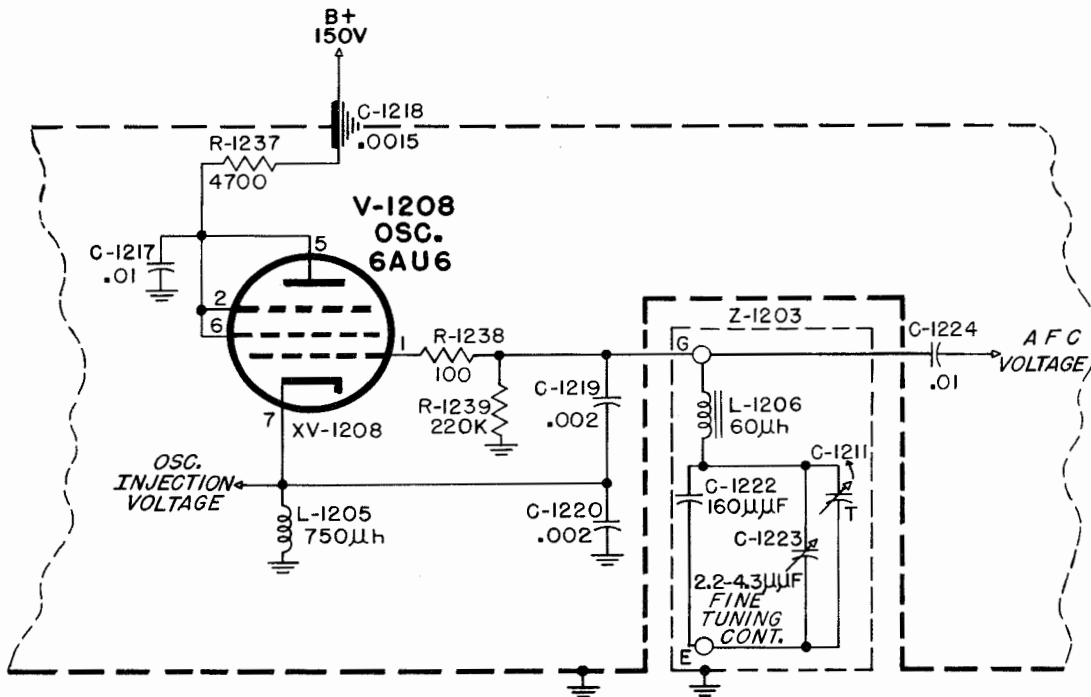

Figure 2-44. Oscillator V-1208, Simplified Schematic Diagram
(6) OSCILLATOR V-1208 (CV-127/FRR-24). (See Figure 2-44).—Oscillator V-1208, a type 6AU6 pentode, is connected in a highly stable series tuned circuit. The oscillator tuned circuit consists of C-1222, C-1223 and C-1211 in series with L-1206, C-1219 and C-1220. The voltage drop across C-1219 and C-1220 provide the feedback necessary for operation. Capacitors C-1219 and C-1220 are very large in comparison to C-1222, C-1223 and C-1211 thereby causing very loose coupling between the tube and the tuned circuit and providing a very high Q circuit. The values of C-1219 and C-1220 are large compared with the grid-to-cathode and plate-to-cathode capacitance of the 6AU6 and as a result any change in the capacitance of these capacitors due to voltage variations or heating effects become negligible. Resistor R-1239 is the grid resistor and R-1238 a parasitic suppressor. Plate and screen voltage is applied from voltage regulator tube V-1211 through resistor R-1237. The oscillator tuned circuit is completely shielded and its frequency can be adjusted from the front-panel by means of the Fine Tuning control C-1223. The nominal output frequency of the oscillator is 1700 kilocycles. The automatic frequency control circuit varies this frequency over a  $\pm 2.5$  kc. range so that the I.F. output frequency is held constant at 50 kc.